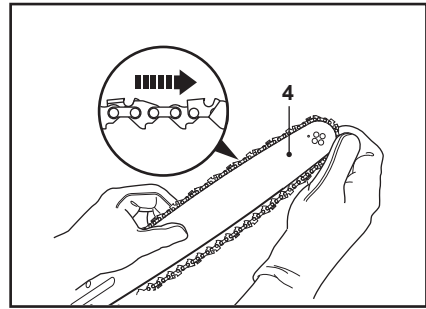

Fig. 1b
5. Spread the saw chain (3) out with the cutting edges of the chain pointing in the rotational direction and slide the chain into the groove around the guide bar (4) (Fig. 1b).